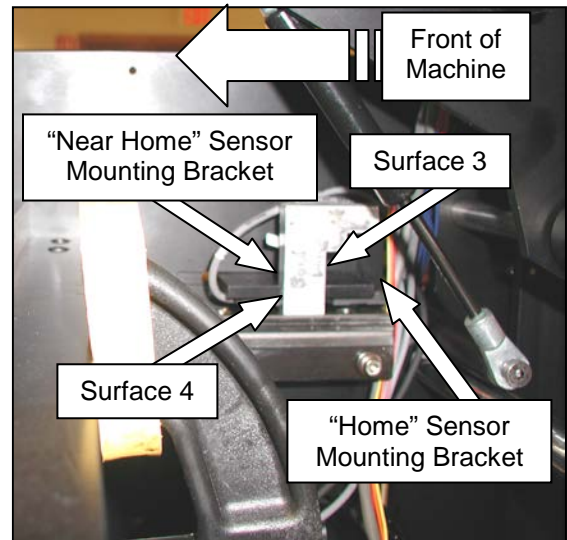

Figure 3-363. Setting the "Near Home" Sensor
4. Move jig into position shown in Figure 3-363, ensuring that it squarely touches the front surface of the rear sensor (surface 3 in figure). Slide front sensor back until it touches the front surface of the jig (surface 4 in figure). **Again, ensure that the jig is touching only the mounting bracket, not the sensor.** Once in position, tighten the mounting screw.